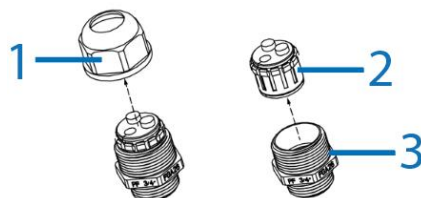

Figure 3
5. Unscrew and remove the waterproof cover (1) (Figure 3) and then remove the internal body (2) (Figure 3) from the threaded connector (3) (Figure 3).
8. Insert all cables through the waterproof cover (1) (Figure 3).